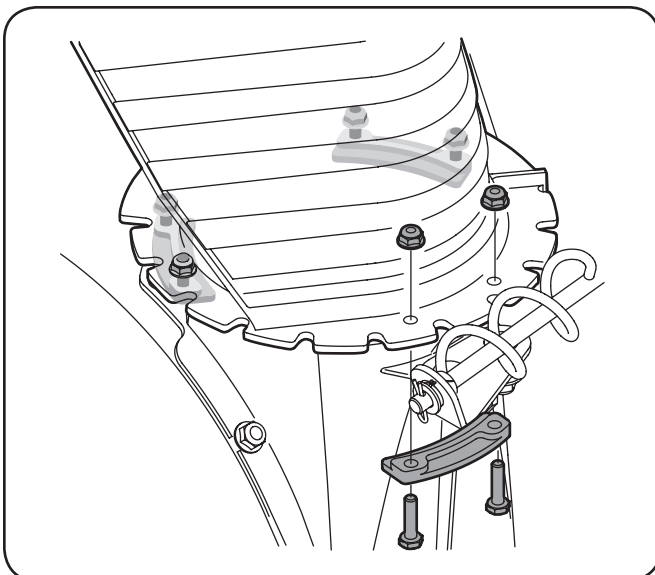

Figure 3-5
3. Secure flange keeper removed earlier with lock nuts and screws. Tighten down nuts securing the other two flange keepers. See Figure 3-5.